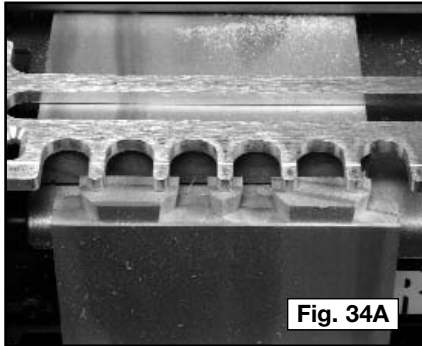

Fig. 34A
Step 2 - Cut only between the fingers where you want the pins to be (Fig. 34A).